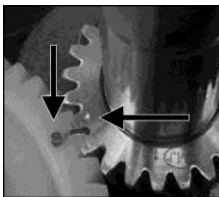

Fig. 12
- a. Align the mark on the camshaft with the mark on the crankshaft (Fig. 12).